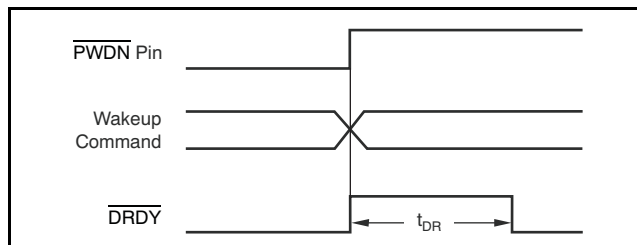

Figure 55.  $\overline{\text{PWDN}}$  Pin and Wake-Up Command Timing
In power-down, note that the device outputs remain active and the device inputs must not float. When the Standby command is sent, the SPI port and the configuration registers are kept active. Figure 55 and Table 11 show the timing.
(1) See Figure 55 and Table 11 for time to new data.